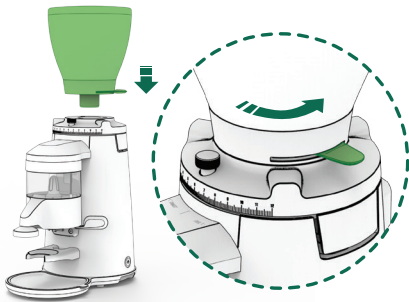

Fig. 1
8.1.1 Place the hopper (2) on the grind regulator (7) and make sure the bean trap (4) is in the closed position (Fig. 1).